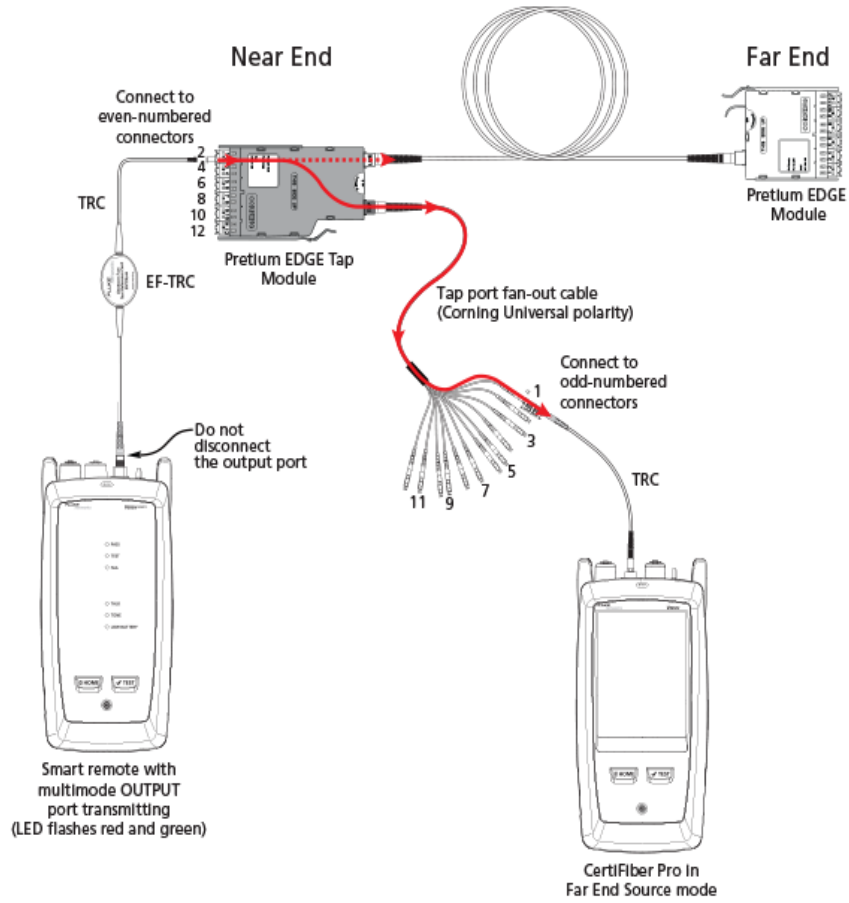
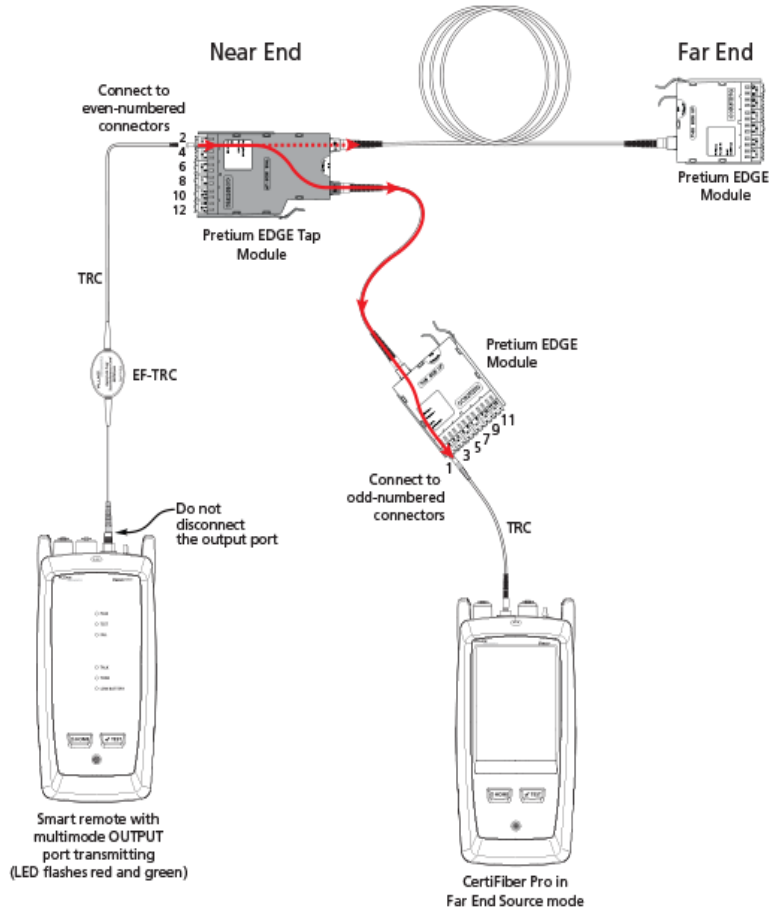

Figure 7. Connections for Testing the Tap Port Links from the Near End through a Fan-Out Cable
Figure 8. Connections for Testing the Tap Port Links from the Near End through an EDGE Module
3. Make the connections shown in Figure 7 if you will do the test through a fan-out cable, or in Figure 8 if you will do the test through a third EDGE module.